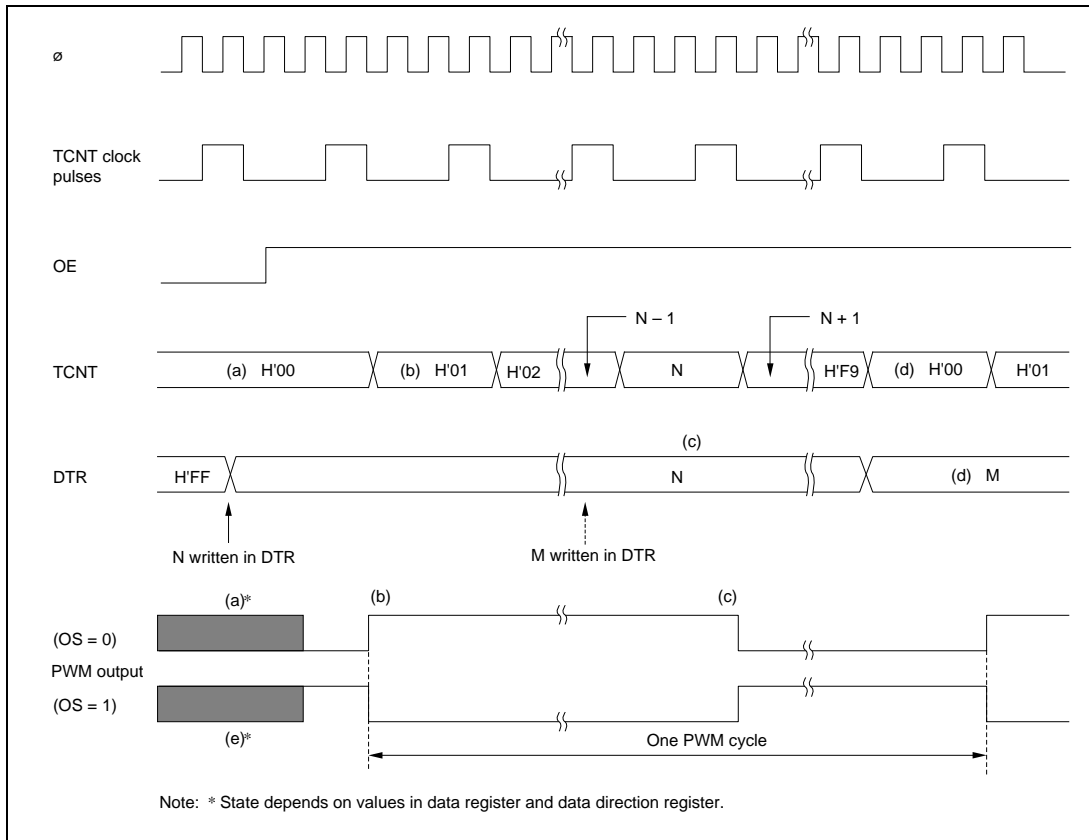

Figure 10-3 PWM Timing
Figure 10-3 is a timing chart of the PWM operation.
- (1) **When (OE = 0)—(a) in Figure 10-3:** The timer count is held at H'00 and PWM output is inhibited. [Pin 4₆ (for PW0) or pin 4₇ (for PW1) is used for port 4 input/output, and its state depends on the corresponding port 4 data register and data direction register.] Any value (such as N in figure 10-3) written in the DTR becomes valid immediately.
- (2) **When (OE = 1)**
- i) The timer counter begins incrementing. The PWM output goes high when TCNT changes from H'00 to H'01, unless DTR = H'00. [(b) in figure 10-3]
- ii) When the count passes the DTR value, the PWM output goes low. [(c) in figure 10-3]
- iii) If the DTR value is changed (by writing the data “M” in figure 10-3), the new value becomes valid after the timer count changes from H'F9 to H'00. [(d) in figure 10-3]
2. **Inverted Output (OS = 1)—(e) in Figure 10-3:** The operation is the same except that high and low are reversed in the PWM output. [(e) in figure 10-3]